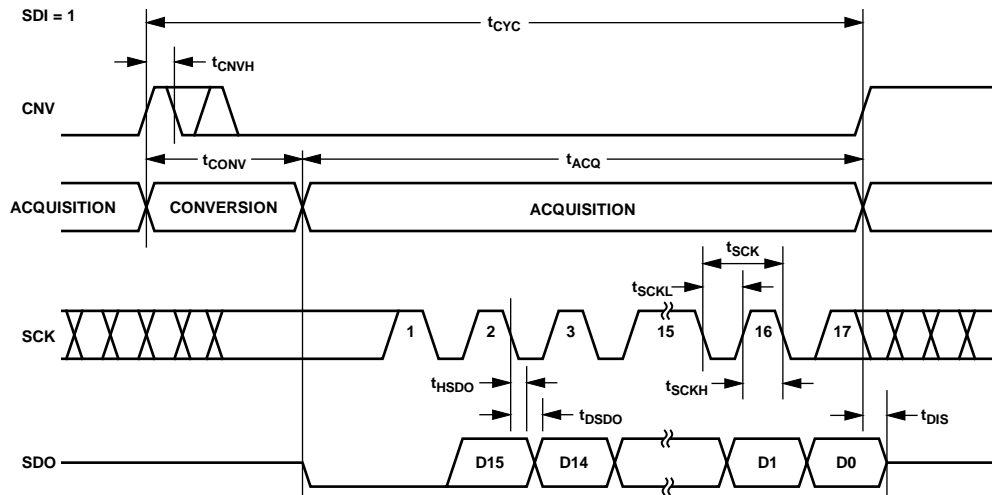
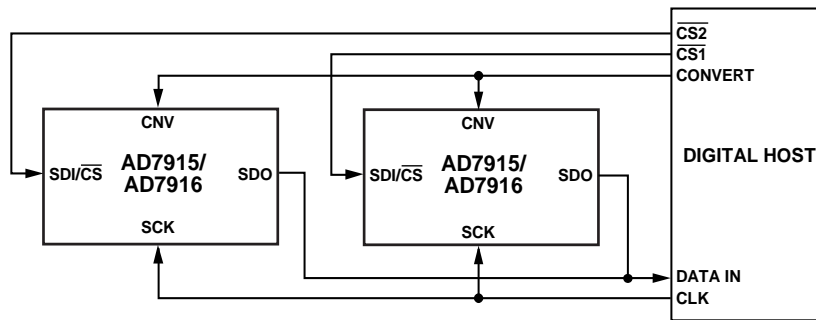
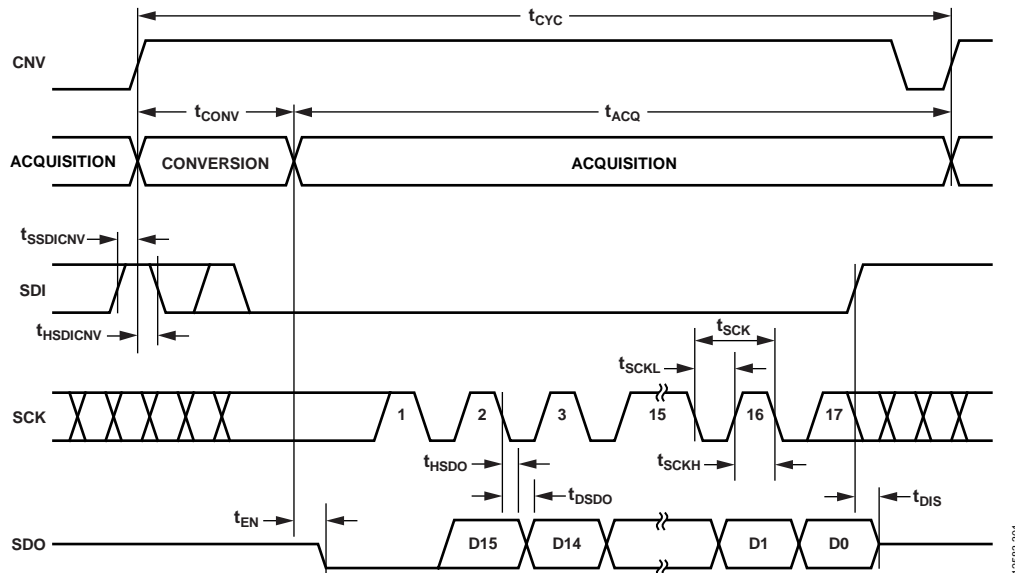
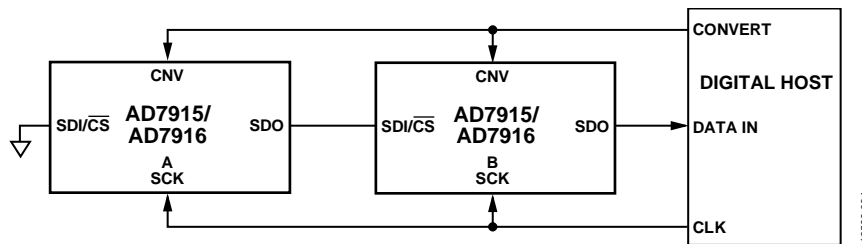

Figure 37. 3-Wire \overline{CS} Mode with Busy Indicator Serial Interface Timing (SDI High)
Figure 38. CS Mode Without Busy Indicator, 4-Wire Connection Diagram
Figure 41. 4-Wire $\overline{\text{CS}}$ Mode with Busy Indicator Serial Interface Timing
Figure 42. Chain Mode Without Busy Indicator Connection Diagram
- in $\overline{\text{CS}}$ mode if CNV or SDI is low when the ADC conversion ends (see Figure 38 and Figure 42).
The connection diagram is shown in Figure 37, and the corresponding timing is given in Figure 38.
The connection diagram is shown in Figure 41, and the corresponding timing is given in Figure 42.